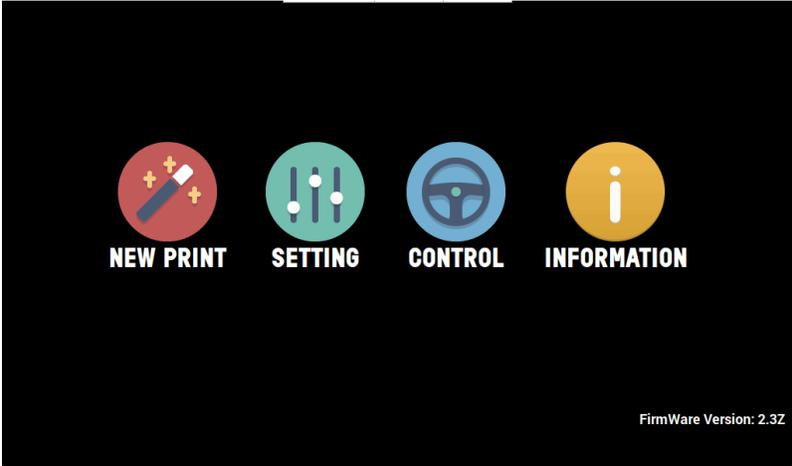
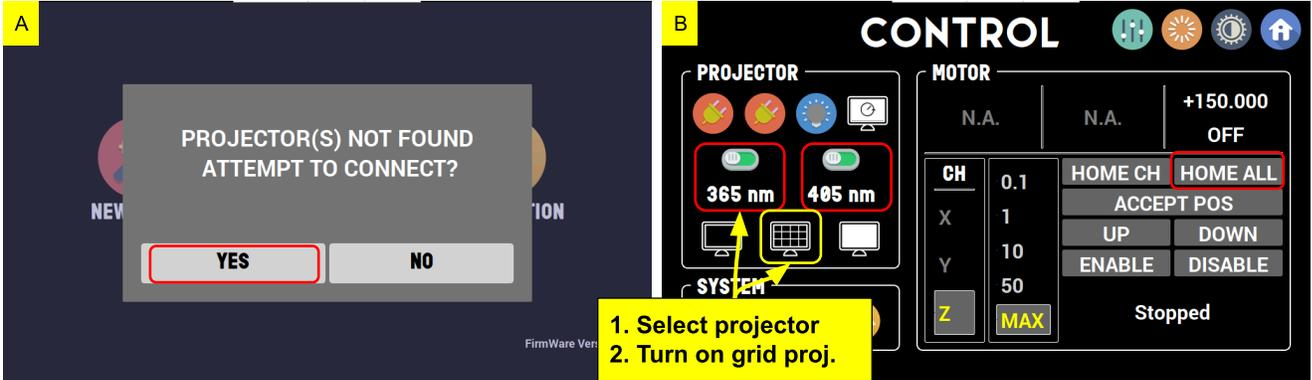

Fig. 4. Printer home screen
Fig. 5. Control page (MZ2) for homing and projection test
- When the printer boots up successfully, you will see the main menu (*Fig. 4*)
- You will need to manually connect the projector from the printer (*Fig. 5*).
- On the home screen (**Fig. 4**), press the **CONTROL** button (**Fig. 5**). Then if you're asked to connect projectors, press YES. It will take up to 1-2 mins to connect the projectors if the configuration is correct. Once moved to the **Control page**, perform **HOMING** (**Fig. 5-B**). The default z-position is 145-150 mm.